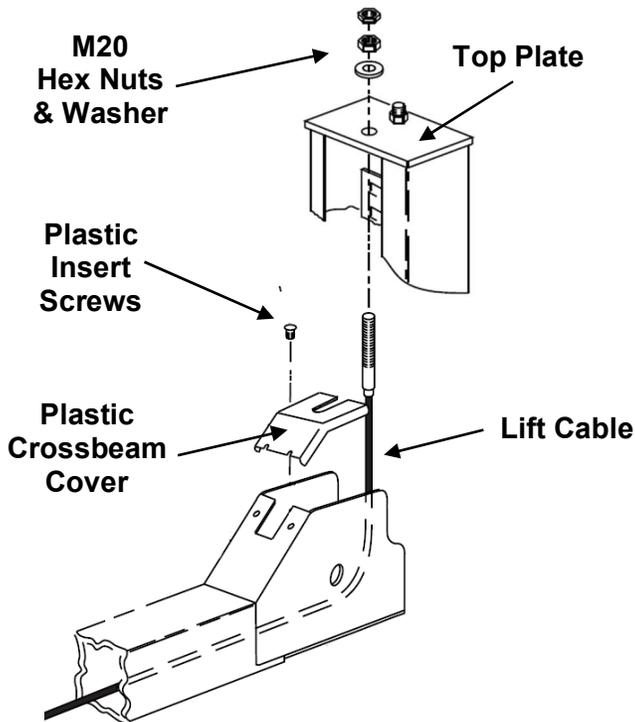
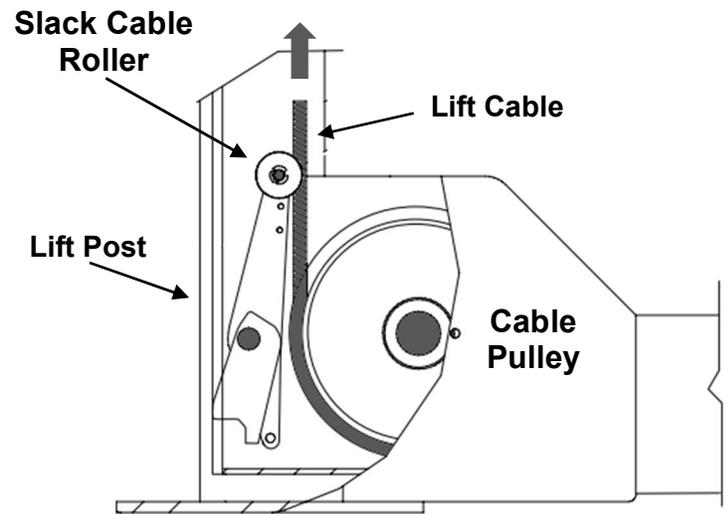

Fig. 14
Fig. 15
- 6) Insert the steel Lift Cable through the Top Plate for each Post, as shown in **Fig 14**. Secure Cable End to the top of each post using **M20 Hex Nut & Washer**. Ensure the Lift Cable is routed correctly on the Slack Cable Roller, as shown in the **Fig 15**.
- 7) Locate the Plastic Crossbeam Covers and mount to the top of each Crossbeam ends using the Plastic Insert Screws, **Fig 14**.
- 2) Adjust cable(s) with lift fully lowered and with Crossbeams touching Base Plates. Loosen top jam nut and tighten nut on cable stud, on top of Post, until the Crossbeam end is raised $1/4 + (6.4 \text{ mm})$, then back off nut one turn, Fig. 14 (Page 14). Retighten top jam nut.